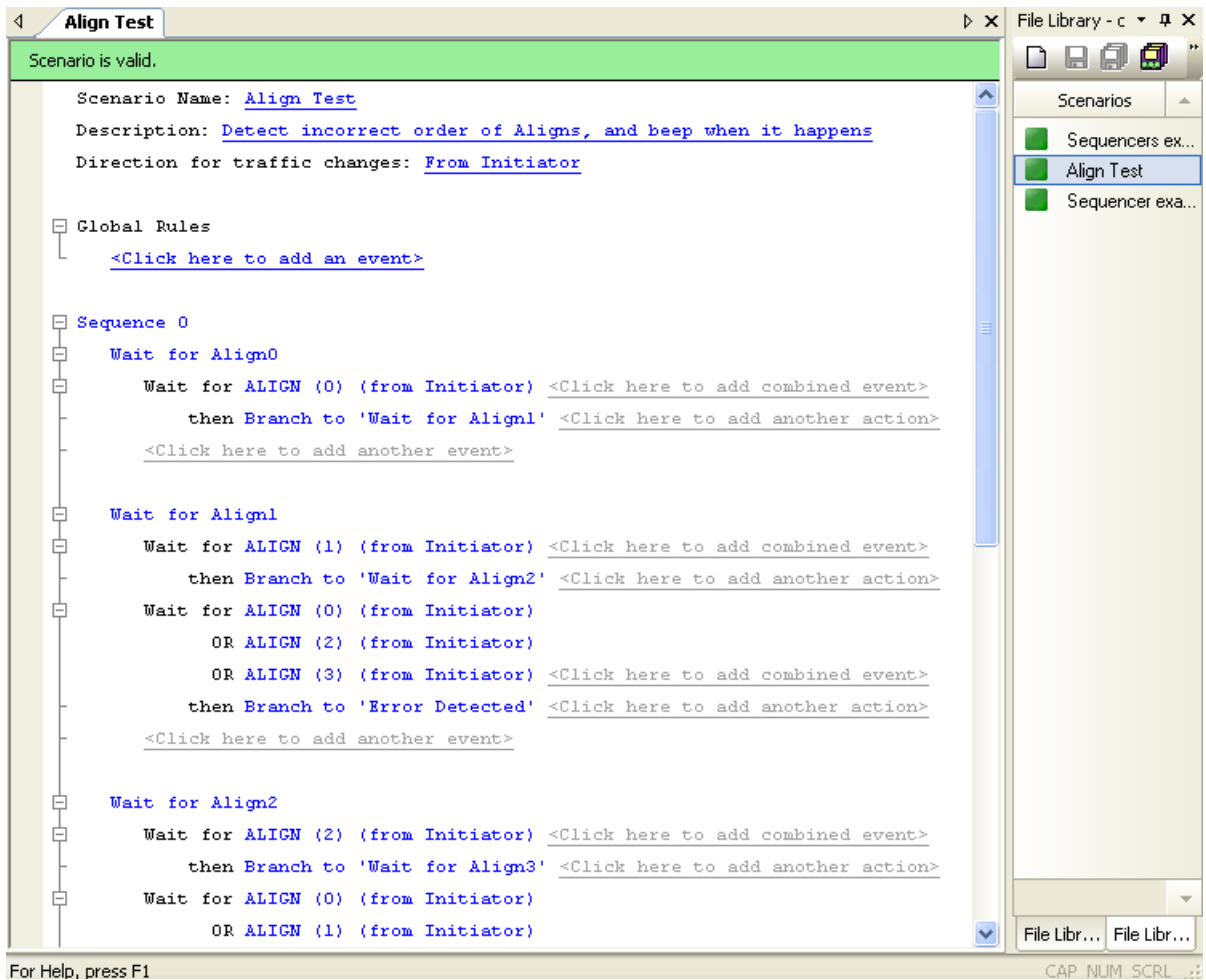

Figure 4.52: Example 8: Top Half of Scenario
3. In the File menu, select **Save Scenario** to save the scenario (see Figure 4.52 on page 338).